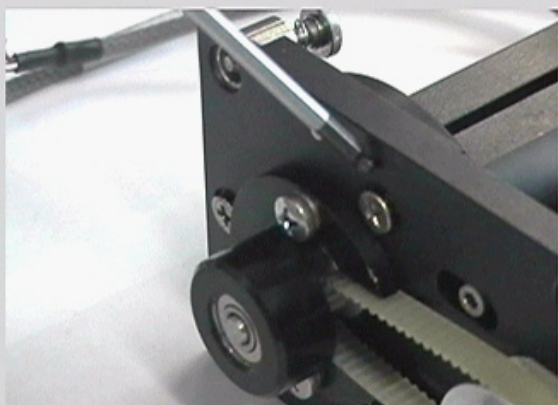

Fig. 11
9. Unscrew the three fastening screws (Fig.11) and remove the base as shown in (Fig.12).
14. Tighten the base support screws (Fig.11).